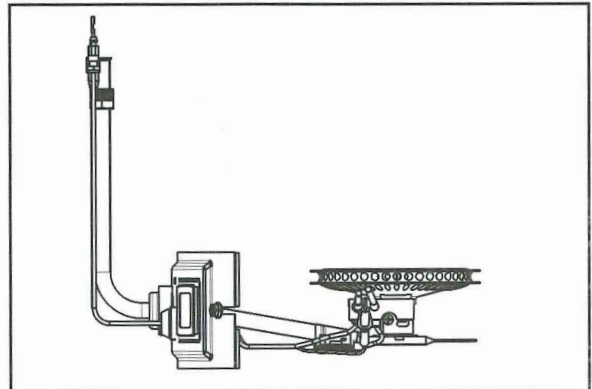
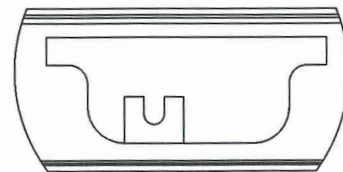

Figure 1. BURNER ASSEMBLY
Figure 2. BURNER SUPPORT
7. Grasp burner tube and remove burner assembly through inner door opening, see Figure 1.
1. Insert new burner assembly through the door opening being careful not to damage the door gasket on the studs, see Figure 1. The burner tube must rest in the support bracket inside the combustion chamber, see Figure 2. Be sure the igniter wire and pilot tubing do not bow up where the flame may damage them. The inner door should fit with the studs extending through the slots in the door. Check to see if the door gasket extends uniformly around the door, see Figure 3. This will ensure that the gasket is not folded and properly seals the combustion chamber.